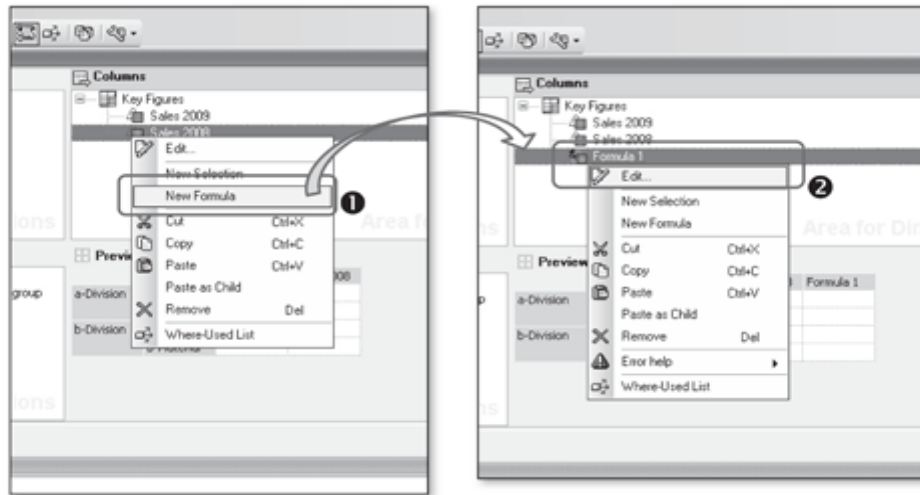

Figure 9.58 Create New Formula
Let's now move on to the next requirement, which is to add a column that compares the 2009 and 2008 values in the column Comparison YoY (%) (refer to Figure 9.52 earlier in this chapter). This type of calculation is addressed using the formula component in the structure. To create a formula, select the option New Formula from the context menu as shown in ❶ of Figure 9.58.